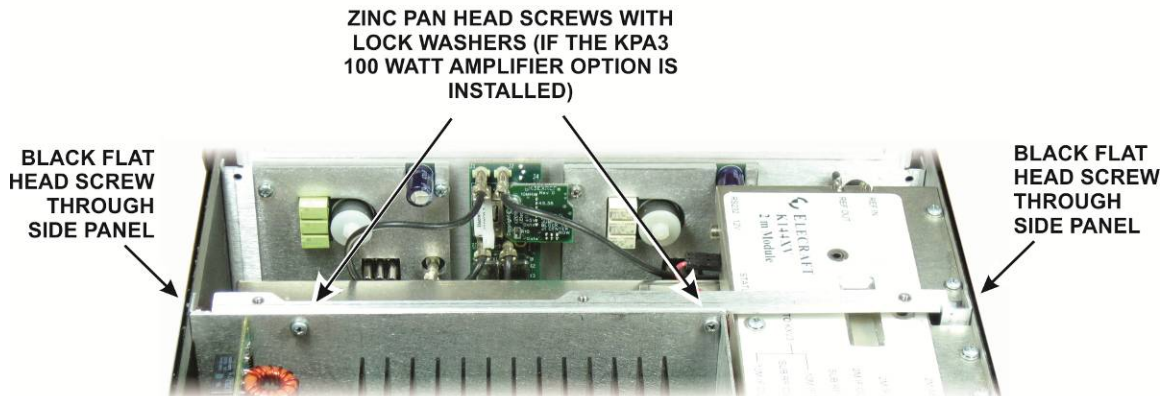

Figure 4. Removing the Chassis Stiffener.
- Remove the stiffener as shown in Figure 4. It will be held in place by a flat head screw through each side panel. If the KPA3 100 watt amplifier option is installed, two screws securing it to the KPA3 shield. Some older K3s may use nuts and lock washers on the screws securing the stiffener to the KPA3 shield instead of PEM nuts.
- If you removed the chassis stiffener (see Figure 4 on page 11) replace it now. If you have the KPA3 100-watt option installed, be sure to replace the two screws that attach the stiffener to the KPA3 shield.